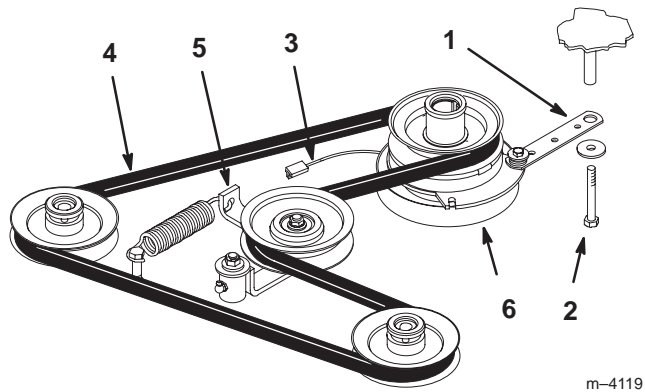

Figure 58
2. Remove bolt from clutch strap and unplug clutch electrical wire (Fig. 58).
3. Pull spring loaded idler to side. Remove traction belt from the engine and hydro pump pulleys (Fig. 58).
4. Install new belt around engine and hydro pump pulleys (Fig. 58).
5. Pull spring loaded idler to side and align belt. Release pressure on spring loaded idler (Fig. 58).